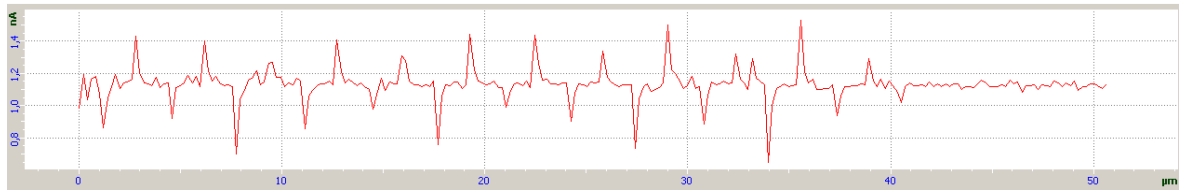

Fig. 7-36. Signal **DFL**
- If the **S** button in the left bottom of the 2D Viewer is pressed, the 1D Viewer will display the detection signal of selecting image in real time (Fig. 7-36).